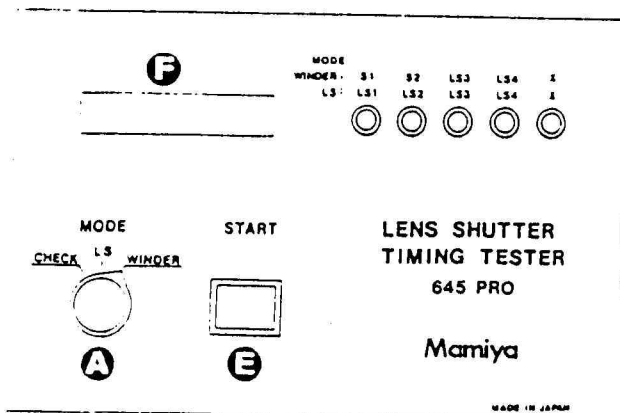

Fig. 1
3. Press the start button (E).
- ① If connection of the grip connector (B) is good, the words "CONNECT GOOD" appear in the display (F). (See Figs. 1 and 2.)